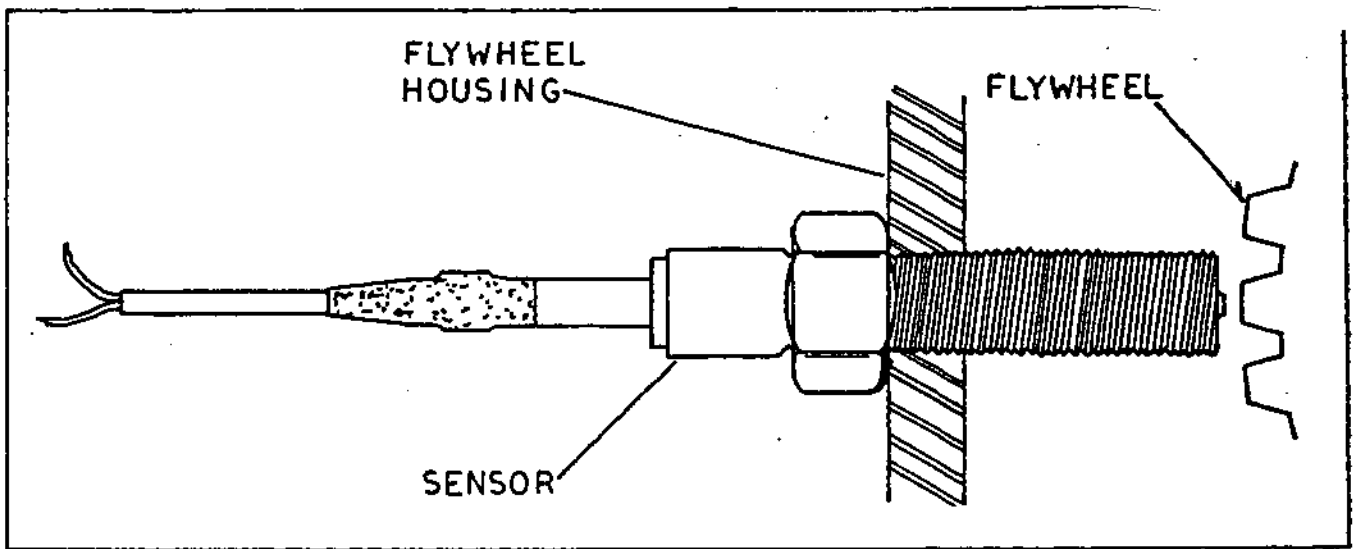

Figure 4.6-F. The RPM Sensor (Typical)
4.6.6- INSTALLATION, ADJUSTMENT AND TESTING OF THE RPM SENSOR (Figure 4.6-F)